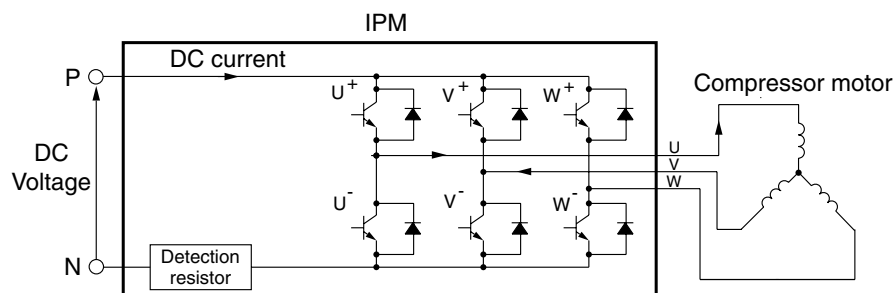

Fig. 6-6
(1) Turns on the power module's U^+ and V^- transistors so the current flows to the motor windings as shown in Fig. 6-6.
(2) Varies the turn-ON time of the U^+ transistor according to the DC voltage level and the start is controlled so the start current is approx. 10A .